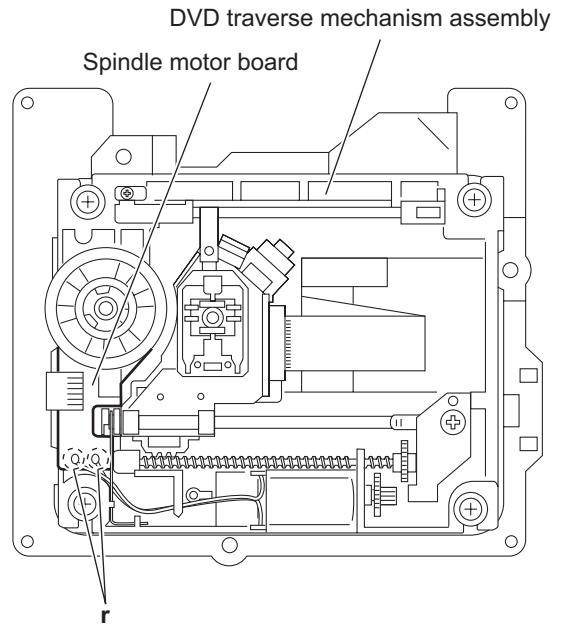

Fig.16
### 3.3.9 Removing the spindle motor board (See Figs.16 and 17)
- From the top side of the DVD traverse mechanism assembly, remove the wires from the soldered sections **r** on the spindle motor board. (See Fig.16.)